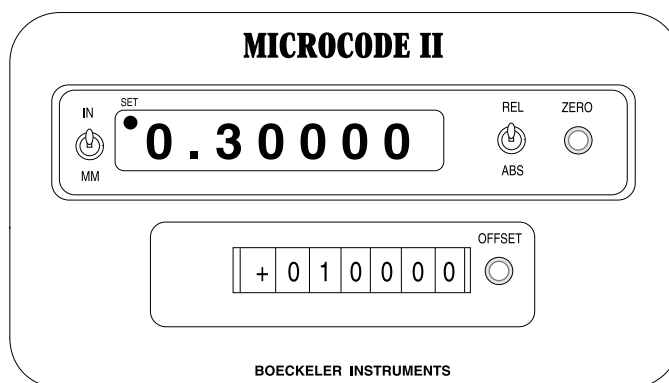

Figure 1.7
2. **To enter the value, press the OFFSET button.** The SET indicator will be lit, and the readout will display the added offset value. Refer to Figure 1.7.
***NOTE:** In Figure 1.7, the offset is +0.10000, causing the 0.20000 measurement to change to 0.30000. Note that the SET indicator is lit.*